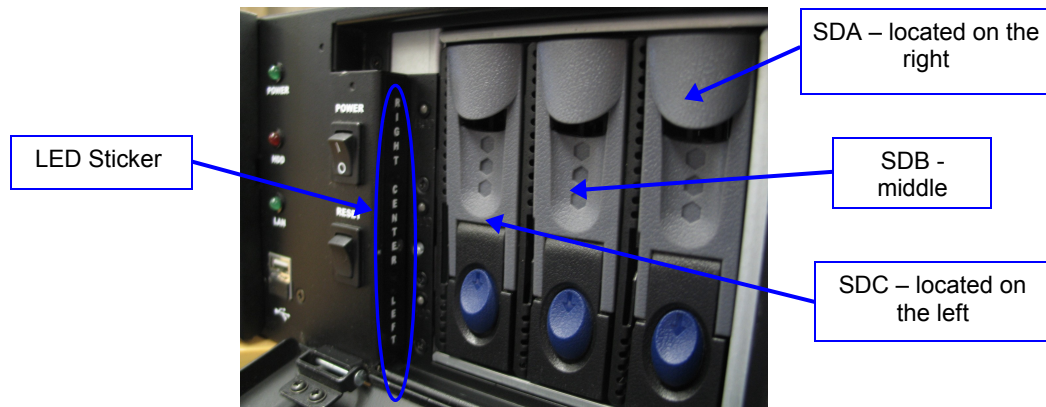

Figure 34: DCP-2000/DSV-J2 Vertical HDDs Bay Positions
- For DCP-2000/DSV-J2 units fitted with vertical drives (Figure 34):